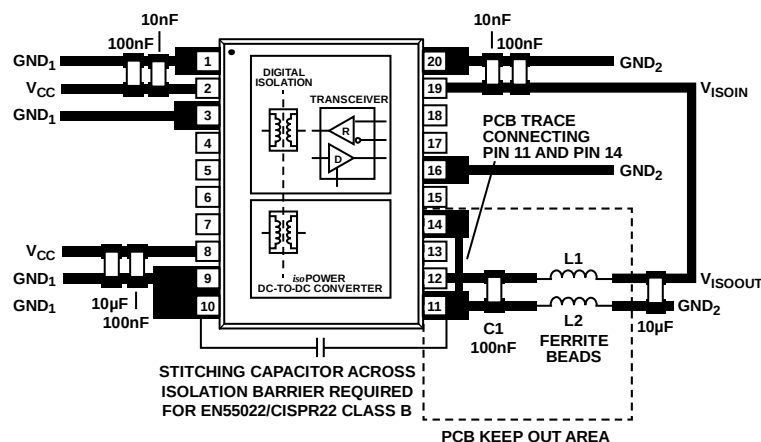

Figure 35. Recommended PCB Layout
The ADM2582E/ADM2587E isolated RS-422/RS-485 transceiver contains an *isoPower* integrated dc-to-dc converter, requiring no external interface circuitry for the logic interfaces. Power supply bypassing is required at the input and output supply pins (see Figure 35). The power supply section of the ADM2582E/ADM2587E uses a 180 MHz oscillator frequency to pass power efficiently through its chip-scale transformers. In addition, the normal operation of the data section of the *iCoupler* introduces switching transients on the power supply pins.
The ADM2582E/ADM2587E features an internal split paddle, lead frame on the bus side. For the best noise suppression, filter both the GND₂ pins (Pin 11 and Pin 14) and V_{ISOOUT} signals of the integrated dc-to-dc converter for high frequency currents. Use surface-mount ferrite beads in series with the signals before routing back to the device. See Figure 35 for the recommended PCB layout. The impedance of the ferrite bead is chosen to be about 2 k Ω between the 100 MHz and 1 GHz frequency range to reduce the emissions at the 180 MHz primary switching
- Do not connect the V_{ISOOUT} pin to a power plane; connect between V_{ISOOUT} and V_{ISOIN} using a PCB trace. Ensure that V_{ISOIN} (Pin 19) connects through the L1 ferrite to V_{ISOOUT} (Pin 12), as shown in Figure 35.
- Ensure that GND₂ (Pin 16) is connected to GND₂ (Pin 11) on the outside (bus side) of the L2 ferrite, as shown in Figure 35.
The ADM2582E/ADM2587E dissipate approximately 650 mW of power when fully loaded. Because it is not possible to apply a heat sink to an isolation device, the devices primarily depend on heat dissipation into the PCB through the GND pins. If the devices are used at high ambient temperatures, provide a thermal path from the GND pins to the PCB ground plane. The board layout in Figure 35 shows enlarged pads for Pin 1, Pin 3, Pin 9, Pin 10, Pin 11, Pin 14, Pin 16, and Pin 20. Implement multiple vias from the pad to the ground plane to reduce the temperature inside the chip significantly. The dimensions of the expanded pads are at the discretion of the designer and dependent on the available board space.